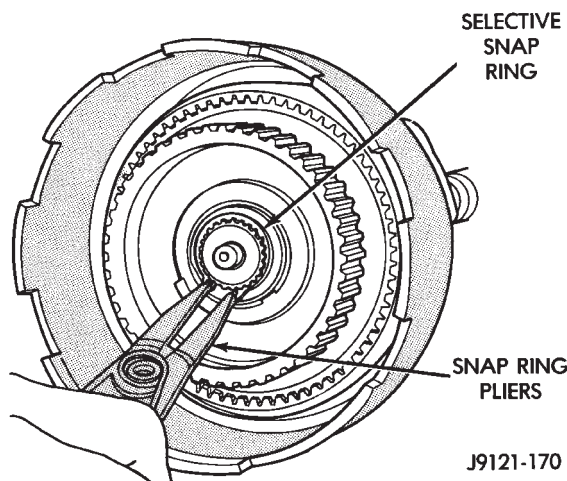

Fig. 94 Installing Planetary Selective Snap Ring
(21) Install planetary selective snap ring with snap ring pliers (Fig. 94). Be sure ring is fully seated.